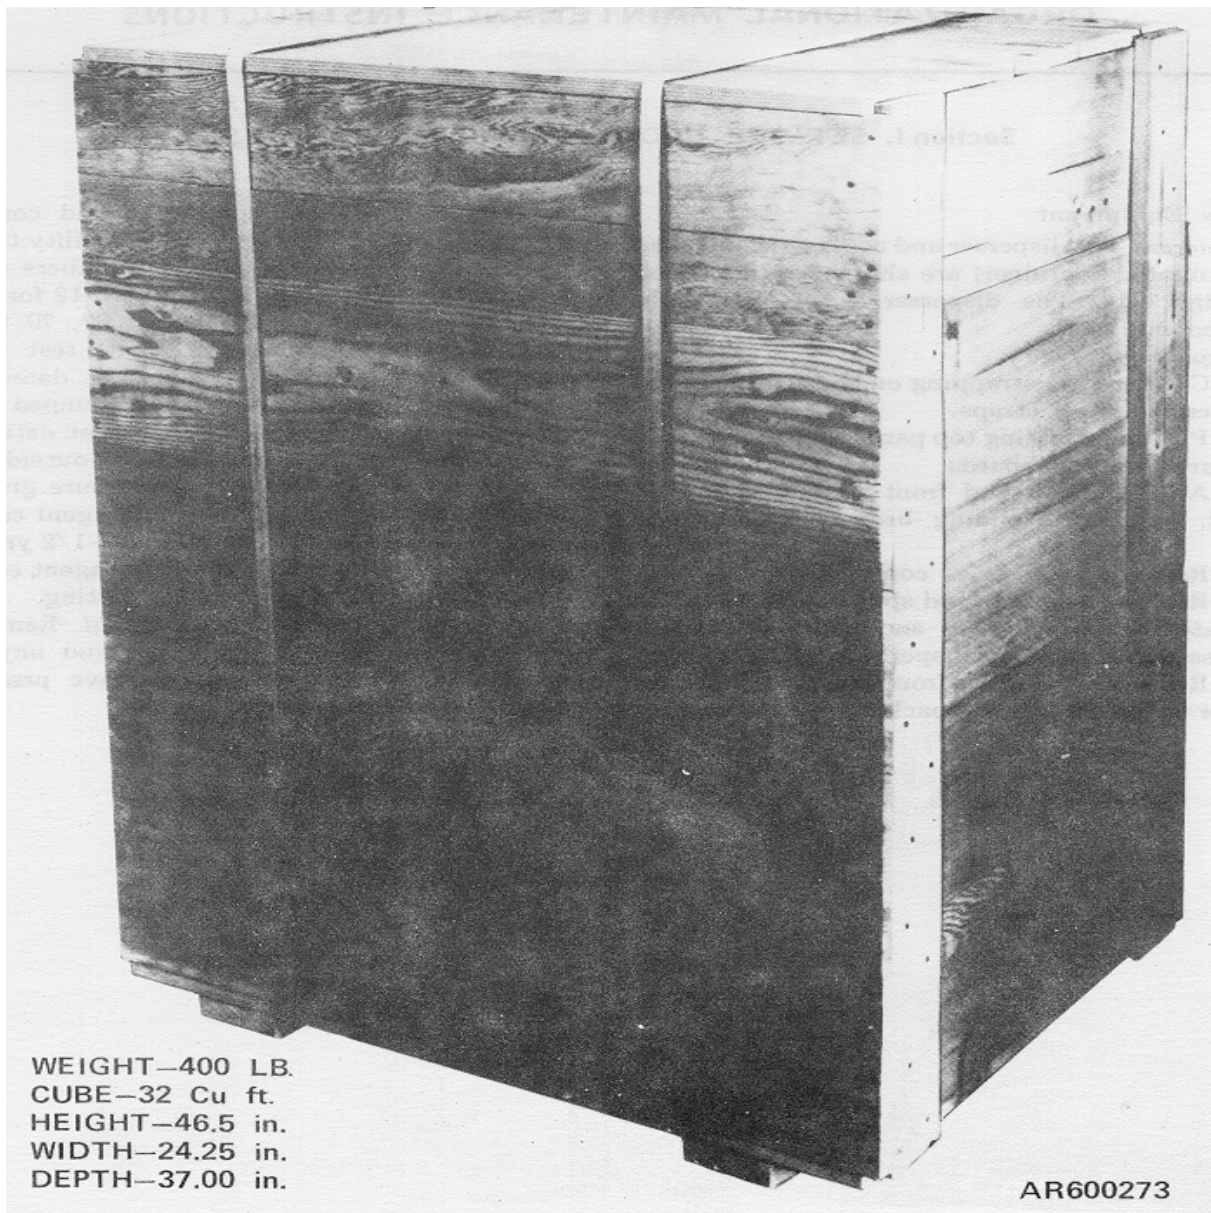

Figure 4-1. Disperser wooden crate.
a. General. The disperser and accessories (packed in a corrugated container) are shipped in a wooden crate (fig. 4-1). The disperser is shipped fully assembled but inert.
(1) Cut the steel strapping on the outside of the crate. Remove steel straps.
(2) Pull nails holding top panel boards and front panel boards. Remove boards.
(3) After the top and front panels have been removed, pull nails holding braces. Remove the braces.
(4) Remove accessories container from crate.
(5) Remove disperser and spare agent container from crate. Keep all braces and panel boards for future use in reerating the disperser and accessories.
(6) Remove accessories from container and save container for future use in repacking the accessories.
(7) Inspect agent containers and compressed gas cylinders for evidence of serviceability tests. The test dates are coded as follows: Numbers represent the month and year (e.g., 1 through 12 for January through December, and 67 for 1967, 70 for 1970, etc.). Example: 4-67 indicates the test was per-formed during April 1967. The test dates for the compressed gas cylinders are stamped on the shoulder just below the neck. The test dates for the agent containers are stamped on the outside surface of the steel support facing the pressure group. The test date on the cylinders and agent containers must be within the last 54 months (4-1/2 yrs). If the time has expired on any cylinder or agent container, return it to general support for testing.